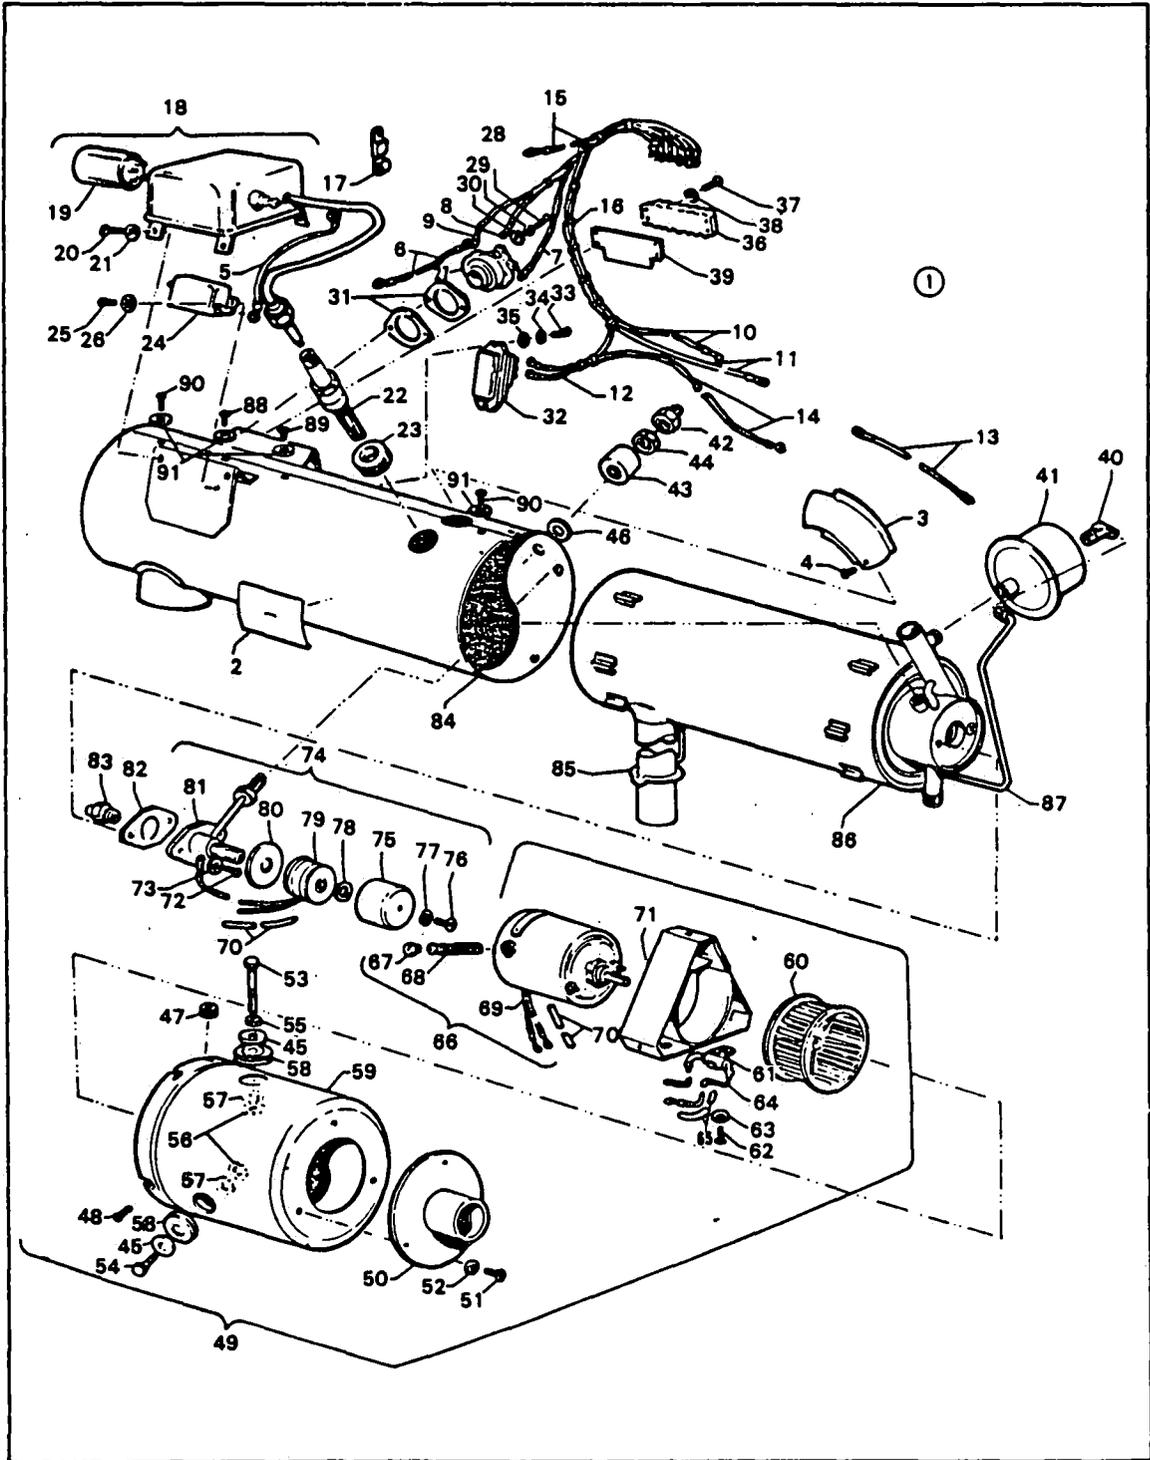

Figure 13-25. Exploded View of Heater Assembly No. 751 959
13-110. CLEANING. (Refer to Figure 13-25.)
(Refer to Figure 13-25.)
13-112. INSPECTION OF REMAINING COMPONENTS. (Refer to Figure 13-25.)
f. Inspect the ignition assembly (18, Figure 13-25) for dented case, loose or damaged primary terminal insulator and broken or obviously damaged high-voltage lead. Give particular attention to the condition of the spring connector at the end of the lead. If the spring is burned off, visibly eroded, or carbon tracked, the ignition assembly should be replaced.
e. Spray test the nozzle (83, Figure 13-25) as follows:
13-115. REASSEMBLY. (Refer to Figure 13-25.)
← Legend for Figure 13-25.